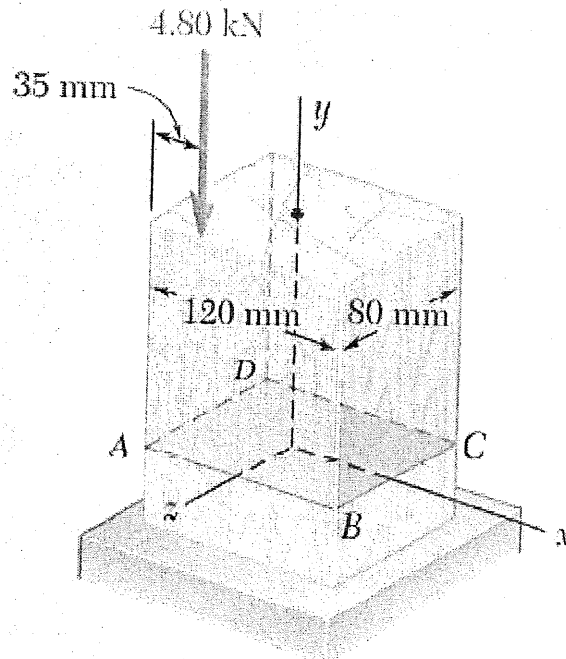

Figure 8
- b) A vertical 4.8 kN force is applied on a rectangular 80 by 120 mm wooden post as shown in Figure 8.